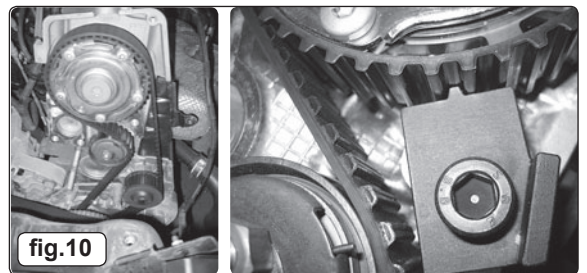

fig.10
- 3.3.5 Fit VS4953 Locking Tool to the engine, as shown in Fig 10, and firmly secure in place using the bolt provided in the VS4950 Kit.